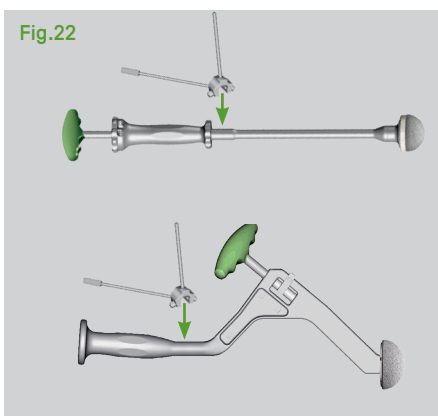

Fig.22
- Place the cup referencing guide on the cup impactor shaft, just below the handle. [Fig.22]